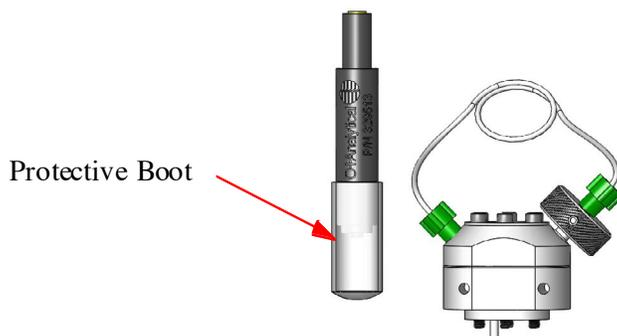

Figure 3.12.
2. Remove the protective boot from the reference electrode (PN 329513) (Figure 3.12).